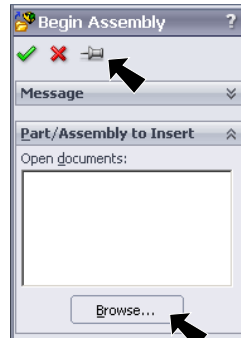

Fig. 1
Step 2. Click **Keep Visible**  in the Property Manager, **Fig. 1**.
Step 3. Click **Browse** in the Property Manager, **Fig. 1**.
Step 6. Click **Browse** in the Property Manager, **Fig. 1**.
Step 10. Click **Browse** in the Property Manager, **Fig. 1**.